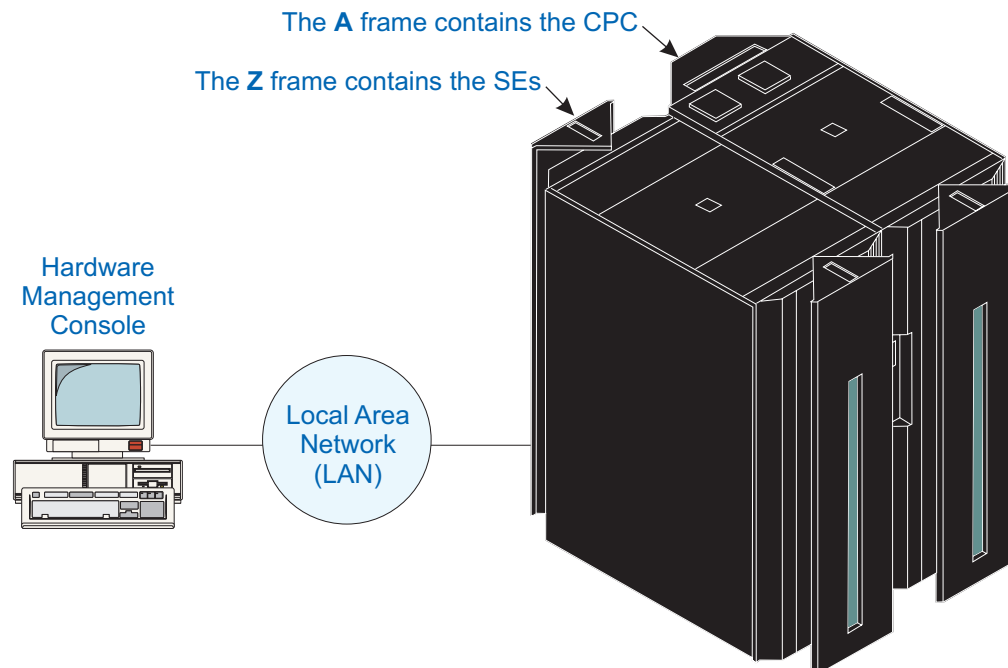
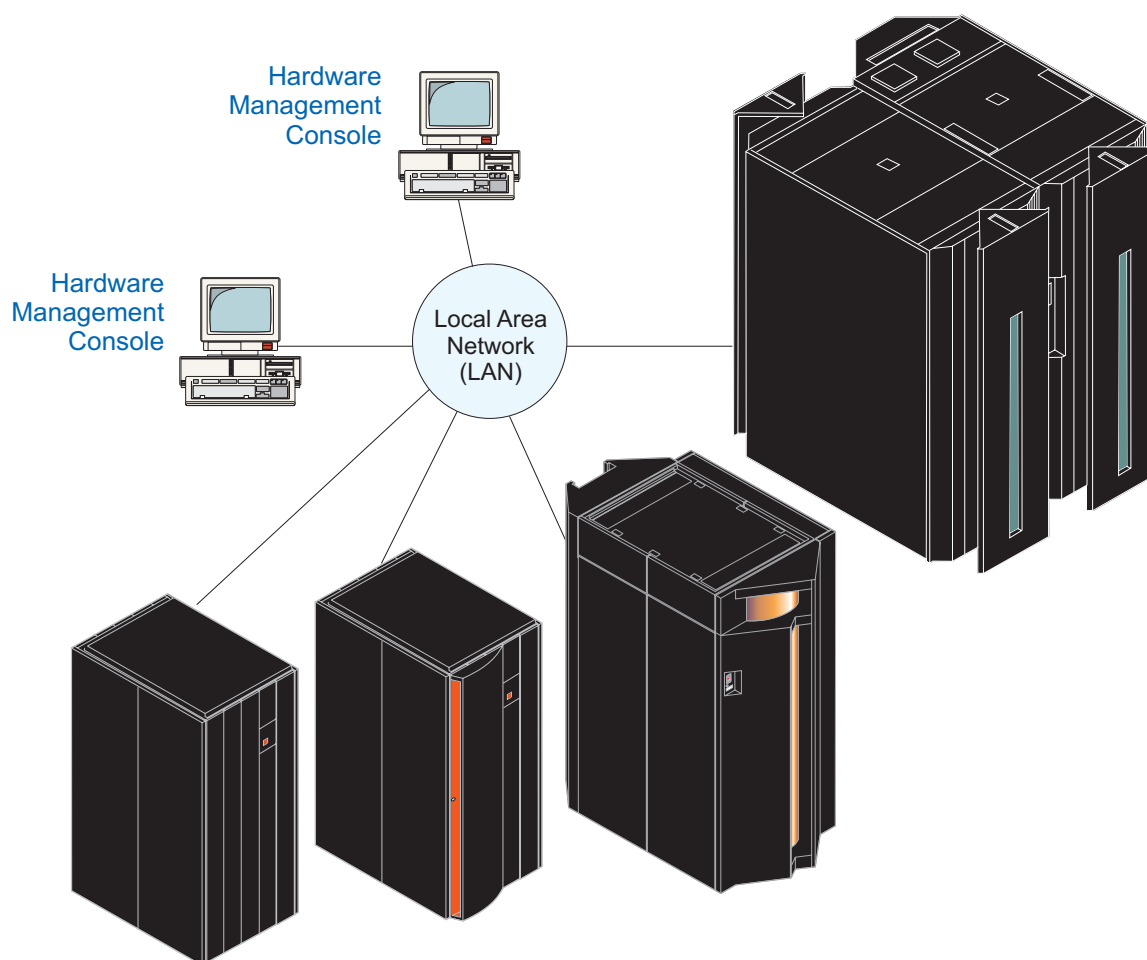

Figure 1. Hardware Management Console configuration in a single CPC environment
Figure 2. Hardware Management Console configuration in a multiple CPC environment
The Hardware Management Console (HMC) communicates with each Central Processor Complex (CPC) through the CPC's Support Element (SE). When tasks are performed at the Hardware Management Console, the commands are sent to one or more Support Elements which then issue commands to their CPCs. CPCs can be grouped at the Hardware Management Console so that a single command can be passed along to as many as all of the CPCs defined to the Hardware Management Console. One Hardware Management Console can control up to 100 Support Elements and one Support Element can be controlled by 32 Hardware Management Consoles. Refer to Figure 1 and Figure 2 on page 2 for typical Hardware Management Console configurations.